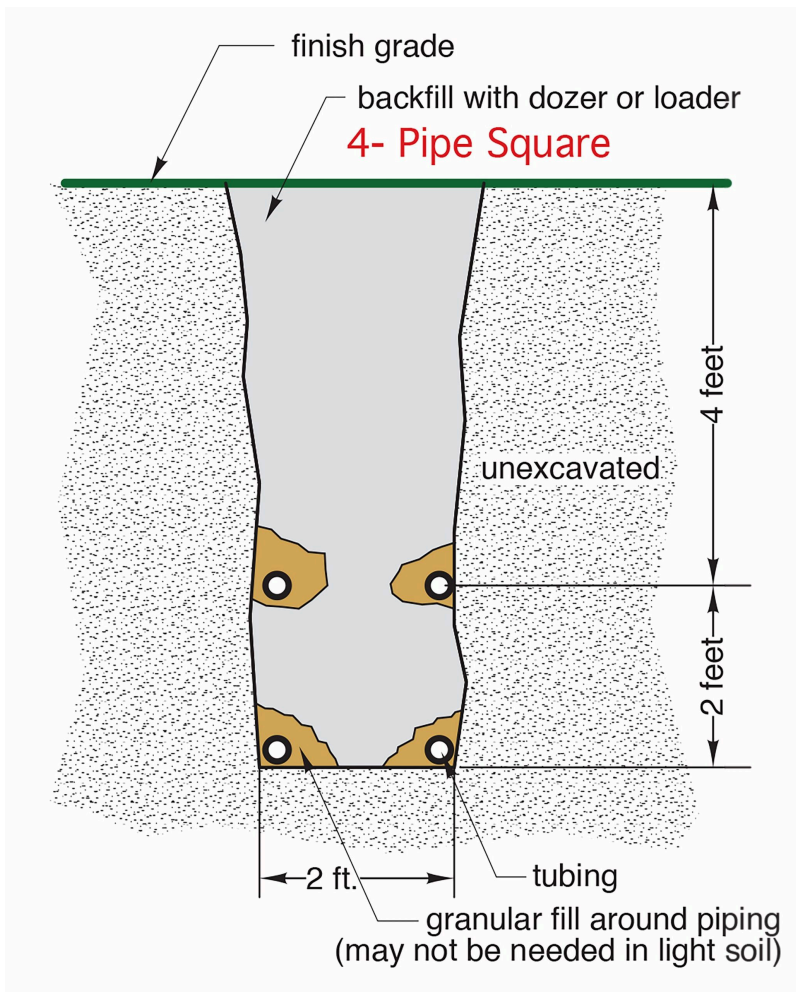

Figure 4 Four pipes in trench
- Figure 4 Typical 3-ton water-to-water heat pump cooling capacity © Caleffi Hydronic Solutions. Used with permission.